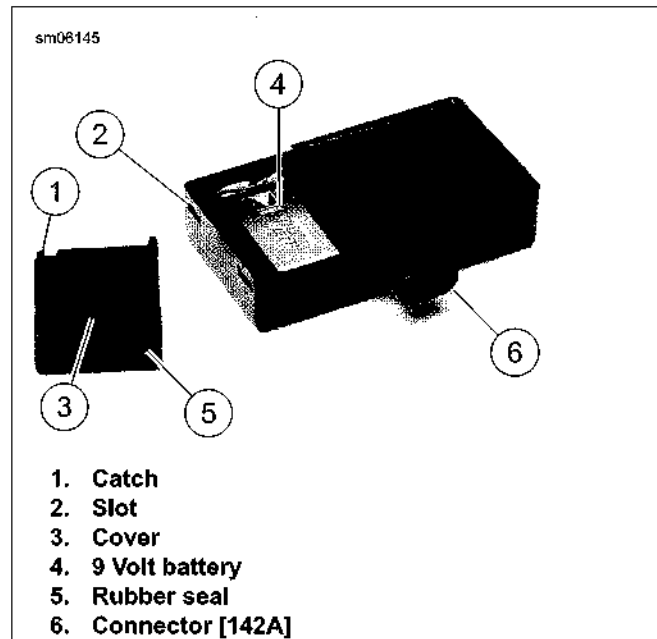

Figure 6-14. Siren Battery Compartment
3. See Figure 6-14. To release the battery cover (3), push the catches (1) in through the two slots (2) in the end of the siren with a small pick.